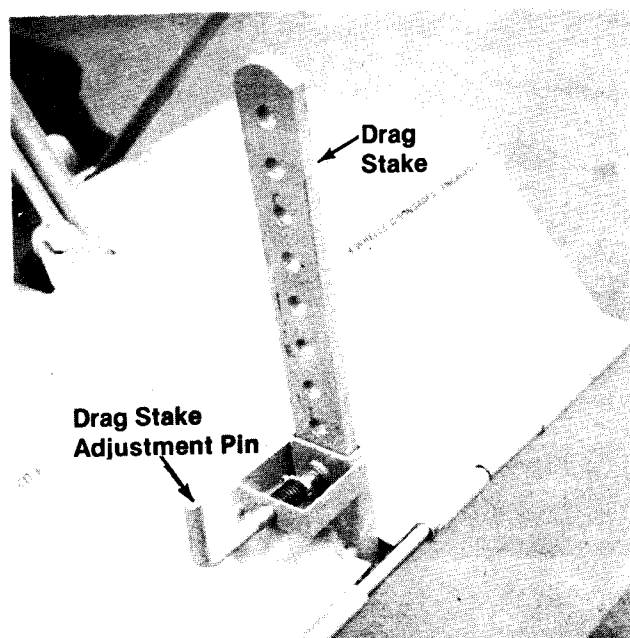

FIGURE 35.
1. Adjust the drag stake by pulling the drag stake adjustment pin. Release the drag stake. See figure 35.